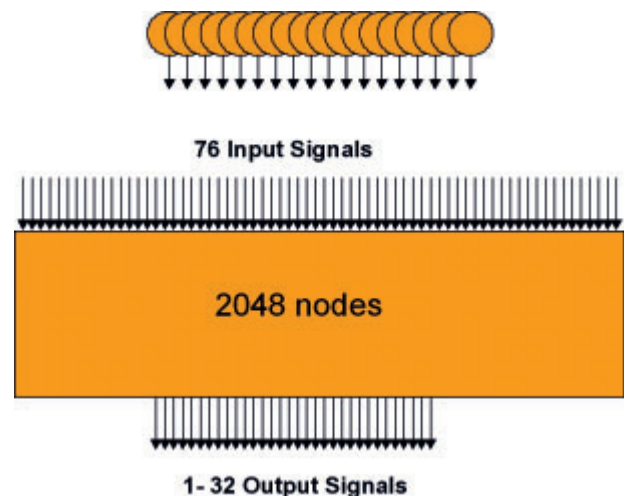

Figure 7 Each Tim system contains a powerful and unique piece of hardware which allows free selection of up to 32 out of 76 Matrix coil elements.
**Figure 7** The relative positions of the various Matrix coil clusters are visualized in the scout view as well as on the coil card in the user interface. In addition, Matrix clusters can be selected via mouse click from the scout view as well as through the coil buttons.